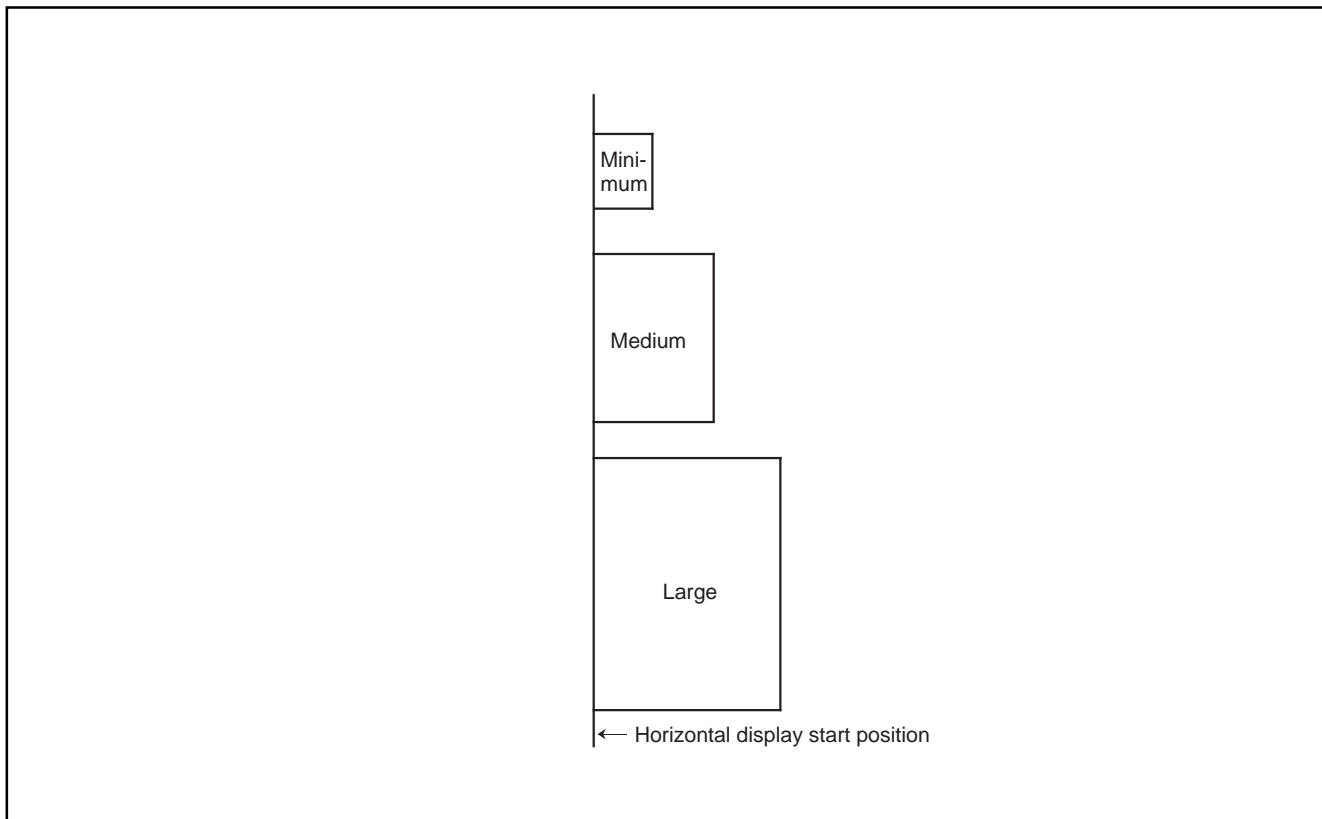

Fig. 8.10.9 Display Start Position of Each Character Size (Horizontal Direction)
**Note:** The display start position in the horizontal direction is not affected by the character size. In other words, the horizontal display start position is common to all blocks even when the character size varies with each block (refer to Figure 8.10.9).